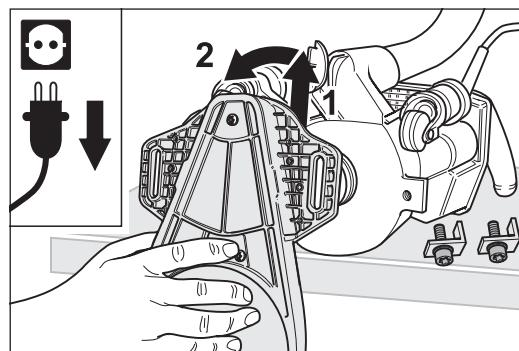

Fig. 40 Remove the attachment from the machine.
- 6 Remove the attachment from the machine (fig. 40) and put down the attachment with the sanding disc facing upward.